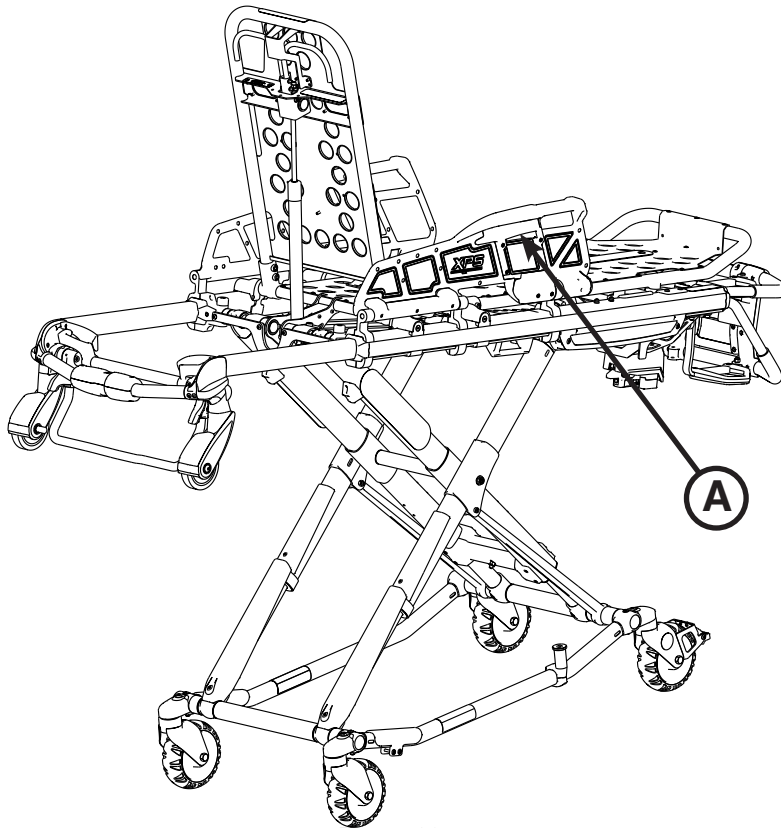

Figure 30
To lower the siderails, lift up to relieve the weight, then pull the red lever (A) (Figure 30).